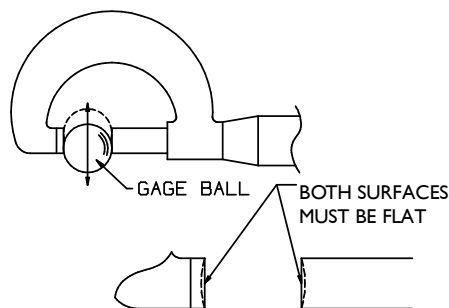

FIGURE 2b
- Concavity, see Figure 2b. Measure a precision ball across various spots of the measuring surfaces. Apply uniform spindle pressure while taking readings for each location to detect minute errors in surface flatness. If the variation exceeds .0002, the micrometer must be repaired or replaced.